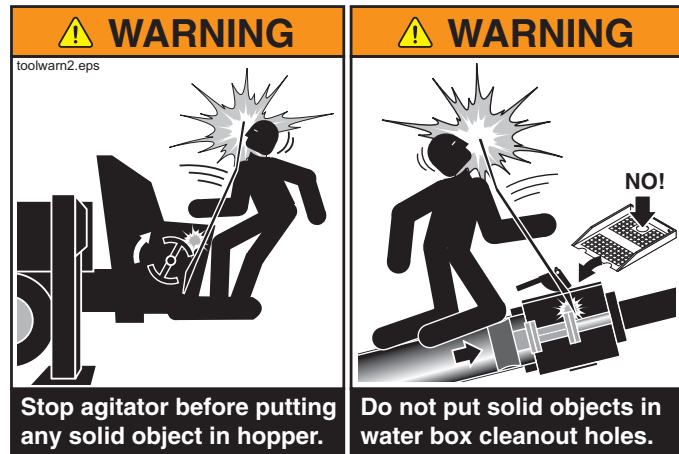

Figure 28
- 8.4 **⚠ WARNING** **Never put a bar or other solid tool into the hopper, water box, or other working system while the hydraulics are operational (Figure 28).**